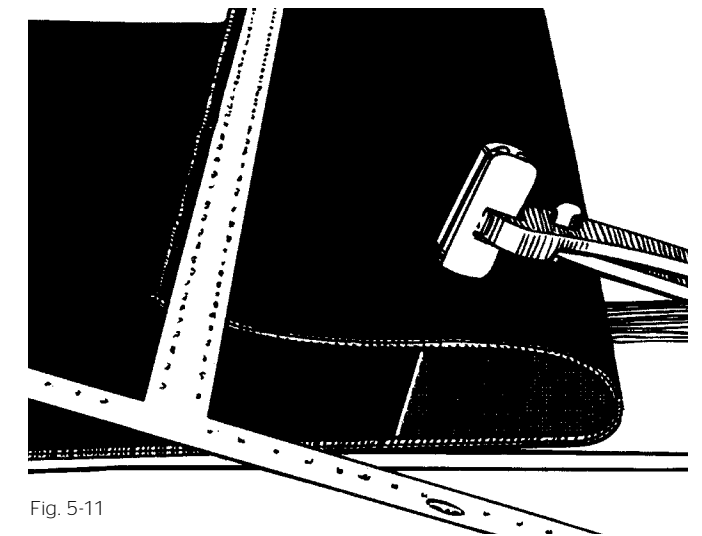

Fig. 5-11
16. Turn the belt end over and mark the cover strip for removal (Fig. 5-11). Cut and remove this cover strip.